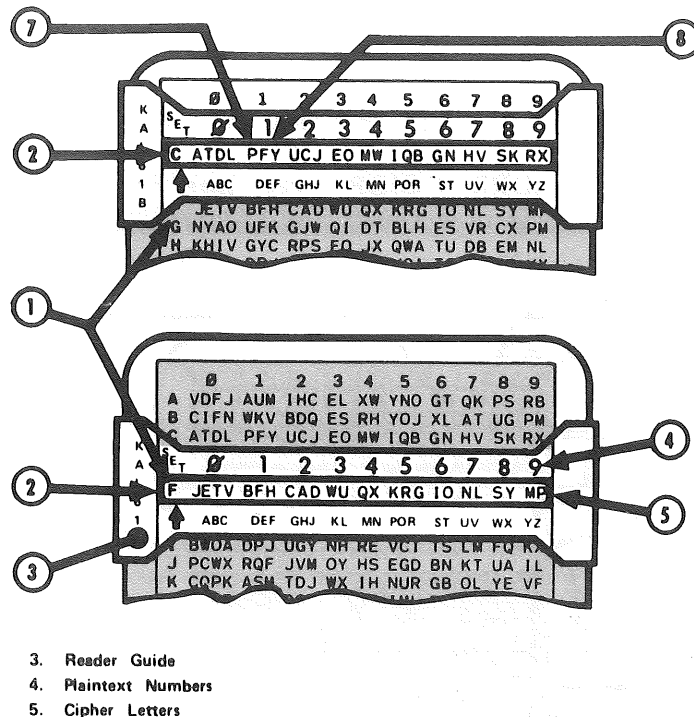

Figure 2. KAL-61B with KTC-1400 Numerical Code.
- 2. Encrypt numbers. (Refer to fig 2 and CEOI Item for Numerical Cipher Authentication System.)
(Refer to fig 2 and CEOI Item for Numerical Cipher Authentication System.)